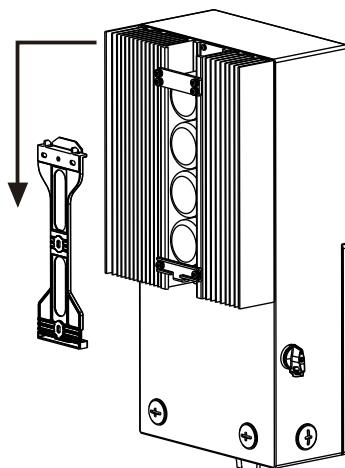

Figure 4.6 Wall Mount Bracket
4. Lift up the inverter (be careful to avoid body strain), and align the back bracket on the inverter with the convex section of the mounting bracket. Hang the inverter on the mounting bracket and ensure the inverter is secure (see Figure 4.6)